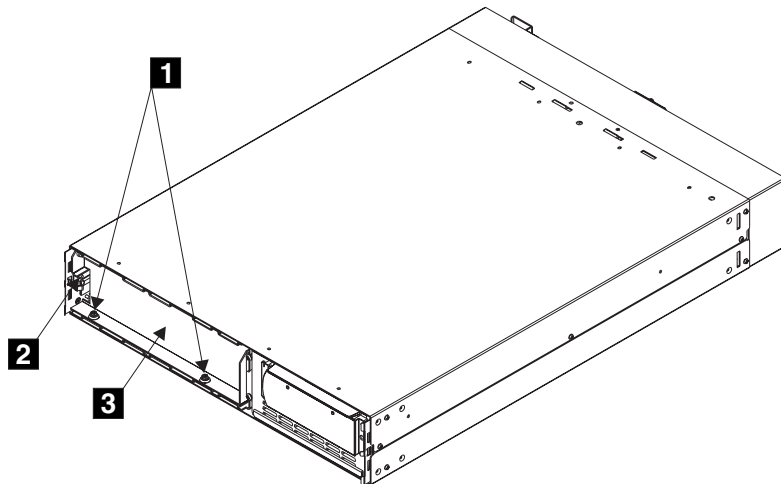

Figure 259. Remove the battery retaining bracket
- c. Remove the two bolts **1** and additional nut **2** on the left side of the bracket. See Figure 259 on page 265.